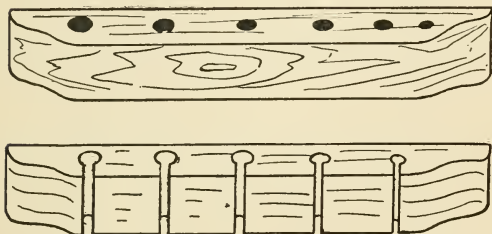

FIG. 16. — Bit and Chisel Racks.
**Racks for Bits and Chisels** should be made similar to Fig. 16, and fastened side by side to the inside of the cabinet.